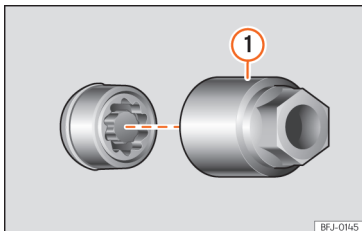

Fig. 225 Anti-theft wheel nut with cap and adapter.
- Insert the special adapter **»» Fig. 225 ①** (vehicle tools **»» page 291**) onto the anti-theft wheel nut and push it on as far as it will go.